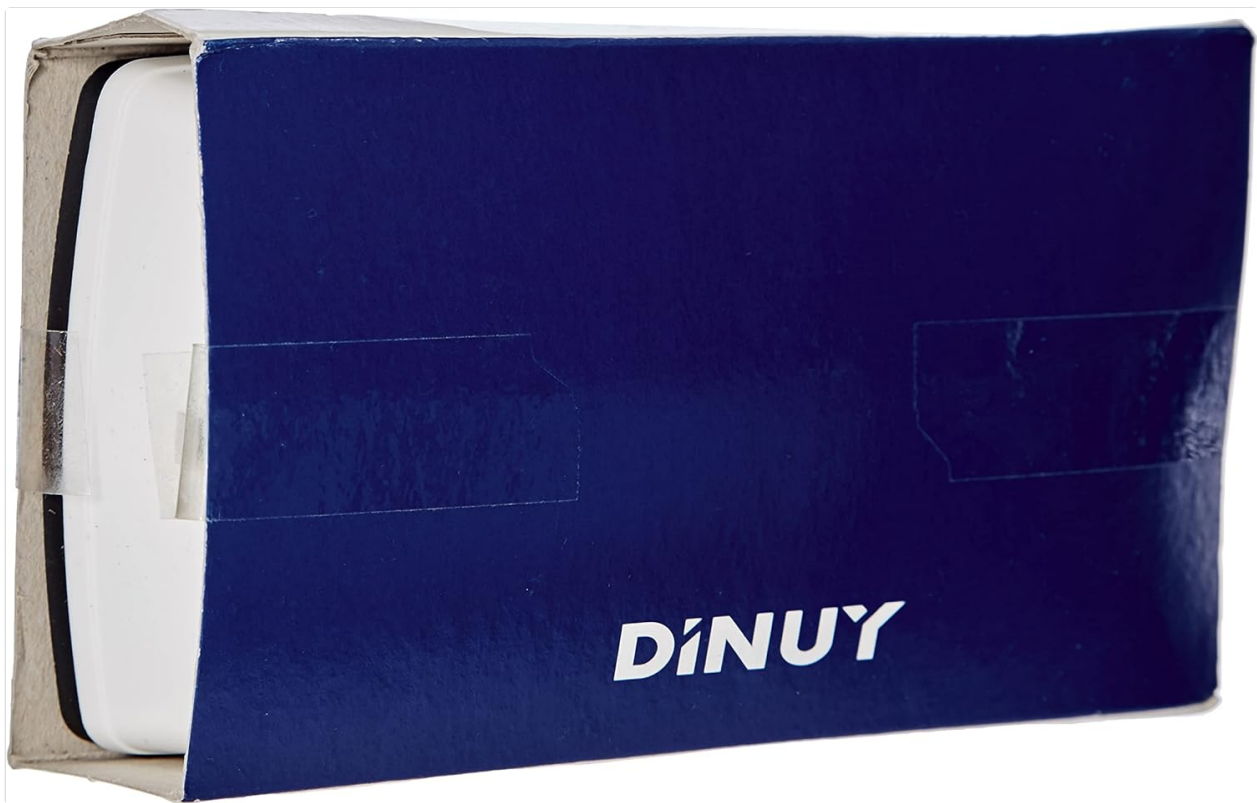

Figure 3: Detailed installation diagram including wiring, cover removal, and mounting options.
Refer to the "Esquema de conexión" section in Figure 3. Connect the neutral (N) and live (L) wires to the corresponding terminals on the chime unit. The doorbell button connects between the live wire and the chime's input terminal (often marked with a bell symbol or 'T').
As shown in the "Abrir la tapa" section of Figure 3:
1. **To insert wires:** Press down on the tab (indicated by "Para insertar los hilos hay que presionar las pestañas" in Figure 3). Insert the stripped wire (0.5-1.5mm² recommended, stripped length 10-15mm) into the terminal.
2. **To secure wires:** Release the tab (indicated by "Para fijar los hilos hay que dejar de presionar las pestañas" in Figure 3). The wire will be securely held.
The unit can be mounted in two ways, as shown in the "Instalación" section of Figure 3: